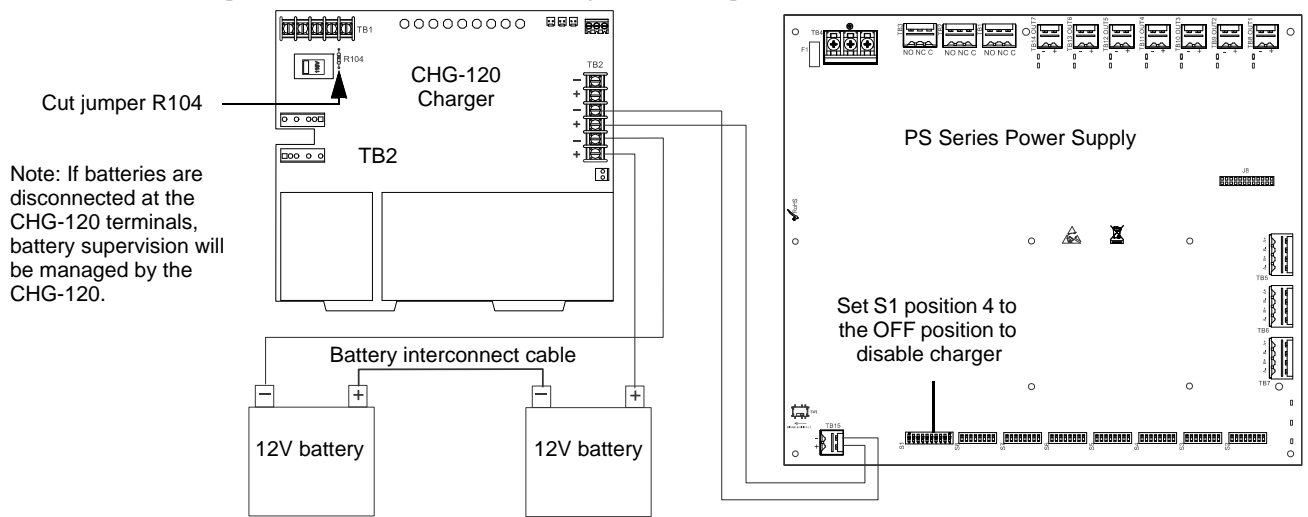

Figure 2.9 Connecting the Power Supply to a CHG-120 Charger
2. Connect the battery cables between TB15 (+ and -) on the power supply and the CHG-120 charger output circuit (TB2: Out 1+ and Out 1-) as shown in Figure 2.9. Be certain to observe polarity.